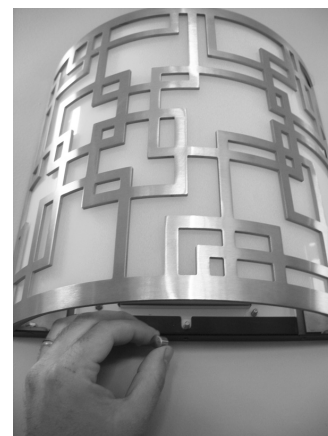

Figure 5
Step 7 Secure the cage assembly onto the backplate with the decorative knob. (See Figure 5)